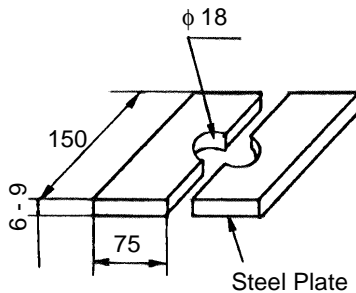
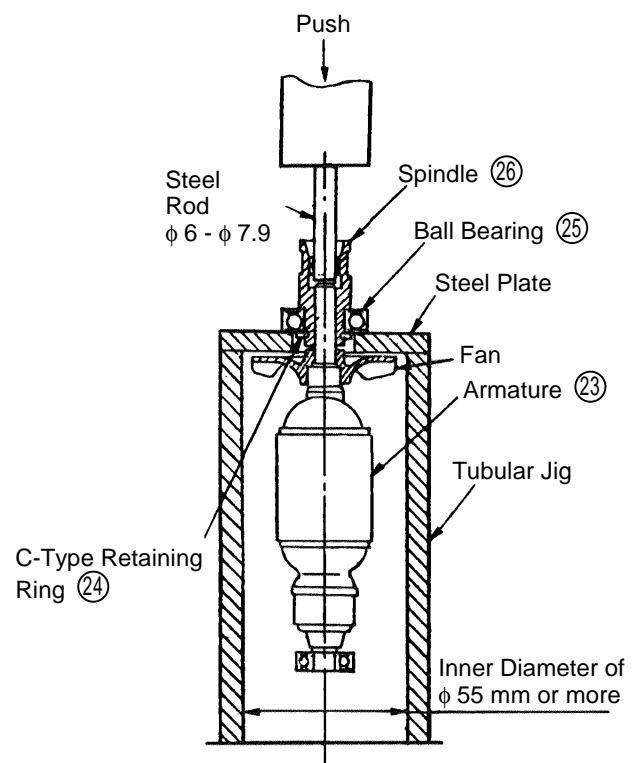

Fig. 5
Fig. 6
- (3) Disassembly of the Spindle ②⑥: (See Figs. 5 and 6)
At all times, be very careful not to damage the Armature. First, remove the Collet ②⑦ from the Spindle ②⑥. Then, being very careful not to damage the fan, suspend the Armature ②③ inside an appropriate tubular jig. (inner diameter of 55 mm) by supporting it with a steel plate with a thickness of 6 - 9 mm (see Fig. 5). Next, as illustrated in Fig. 6, fit a steel rod (external diameter of 6 - 7.9 mm) into the Spindle ②⑥, and press down on the end of the steel rod with a hand press to separate the 6002VVC Ball Bearing ②⑤, C-Type Retaining Ring ②④ and Spindle ②⑥ from the Armature ②③.